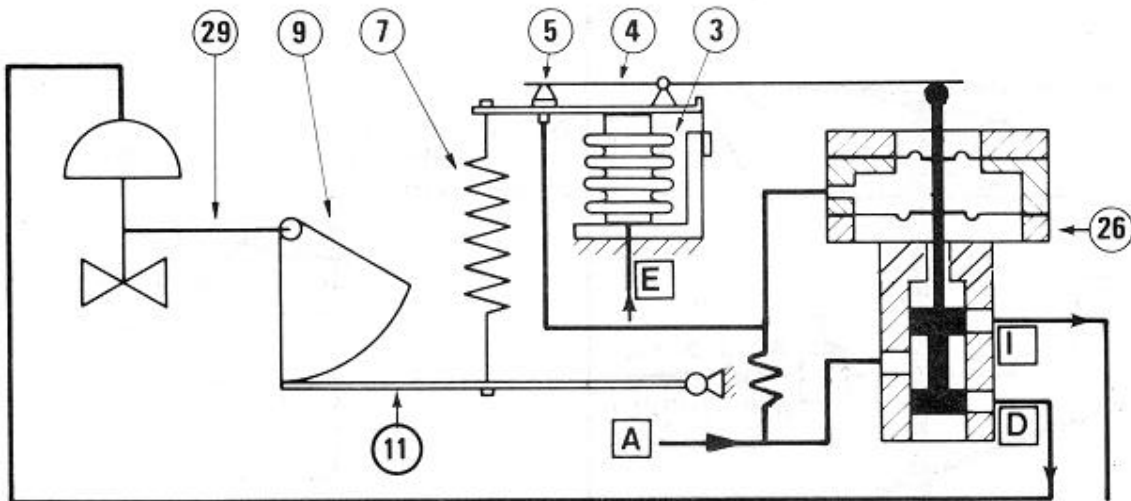

Fig.1
The positioner SGN96C / SGA96C is a force balance instrument which compares the control element (servomotor) position, turned in force by the range spring (7) and the pressure value of the input signal applied to bellows (3). The position of stem of servomotor is transmitted to range spring through the system feedback (or coupling) lever (29), cam (9), internal lever (11). The action of the forces of the range spring and bellows on the lever (4) causes a pressure variation in the relay section of pneumatic power amplifier (26) by means the amplification system flapper-nozzle (5). In its turn the relay section of pneumatic amplifier drives the split valve that supply the final control element. Fig.1 shows positioner linked with a control valve equipped with single acting and direct action servomotor but the considerations are valid also for the other foreseen uses.